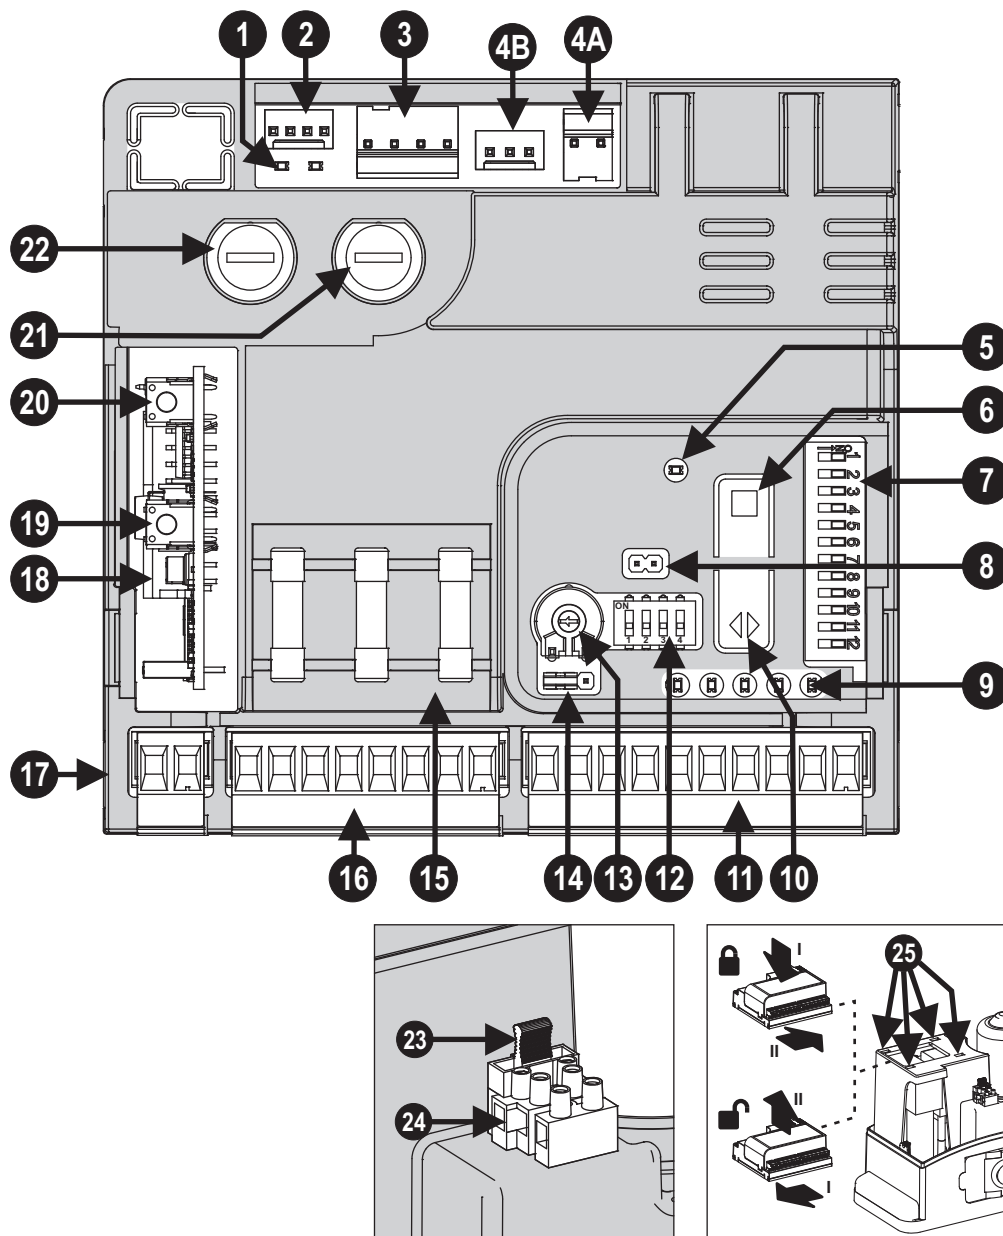

Fig.1. SWIFT624-CB driver motherboard view, with indication of most important elements
Motherboard of the driver (fig. 1) has power supply unit and an implementation circuit made on specialist transmitters, as well as connectors for connecting supply voltage, motor and protecting, steering and signal elements. It also has microprocessor control unit. Presence of the supply voltage is signalled with the LED diode lighting.
4.3.1. Connector for connecting engine (4A, fig.1)
4.3.2. Connector for limit switch (2, fig.1)
Clamps are used to connect built-in limit switch. Magnets which cooperate with the switch have different polarization. Before the programming make manual move with gate and make sure that the switch correctly interprets outermost positions of the gate (gate closed - FCC diode turned off, gate opened FCA diode turned off; 16, fig. 1). If the switch operates in opposite way turn the magnets 180 degrees after earlier removing the cases - catch in the top part of the magnet. Magnet with the tag (white stripe) directed toward the switch activates FCC switch (gate closed) and magnet with the tag directed toward the handle activates FCA switch (gate open).
4.3.3. Connector for transformer (3, fig.1)
4.3.4. Connector for engine encoder (4B, fig.1)
4.3.10. Output clamp for connecting second driver Slave (11, Fig.1) – MASTER-SLAVE function
4.3.11. Clamps for connecting safety devices BSC, BSA (13,14, Fig.1)
4.3.17. ZConnector for TRX radio card and clamps for connecting radio aerial (14, fig.1)
After switching the power supply of the driver, there is an automatic change into OPERATION MODE. In operation mode, the current state of inputs is signaled by LED diodes (16, fig. 1)6.
The programming takes place with the help of the LED L1 diode and PROG/STOP and P/P buttons which are on the driver board (6.10 fig. 1), groups of DIP-SWITCH micro switches (11 fig. 1), TR1 potentiometer (13, fig. 1). The control panel learns the operation times and pause during the procedure of the programming. Programming procedure includes repeated operation with using the P/P button or remote control if such was assigned.